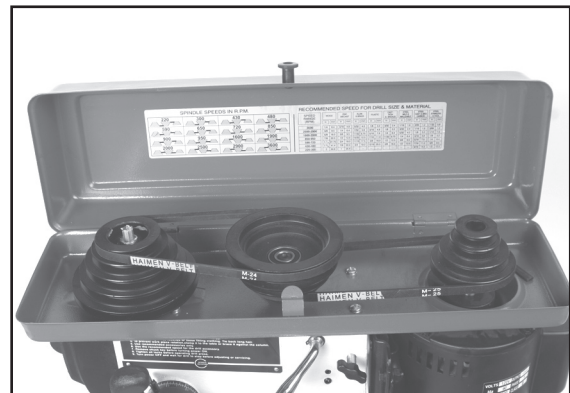

Figure 9
5. Install the idler pulley and drive belts. Simply slide the pivot post of the idler pulley into the corresponding hole in the drill press head as shown. The small drive belt (M24) is mounted to the spindle pulley and the large drive belt (M25) is mounted to the motor pulley. Fig. 9